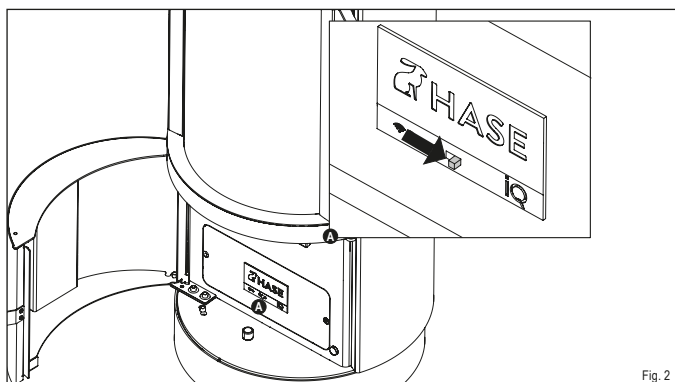

Fig. 2
- ▶ Set the switch on the control panel to “On” (Fig. 2).